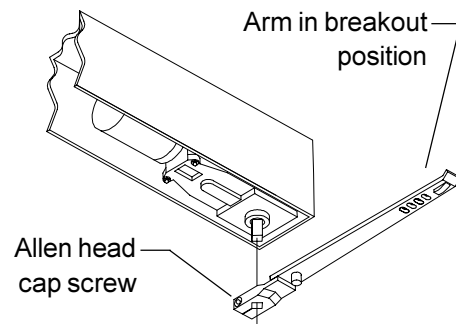

Figure 11-3
- 11.4. Orient the arm in the breakout position and press the arm onto the spindle until the end of the spindle is flush with the bottom surface of the arm, then tighten the Allen head cap screw on the arm (Figure 11-3).